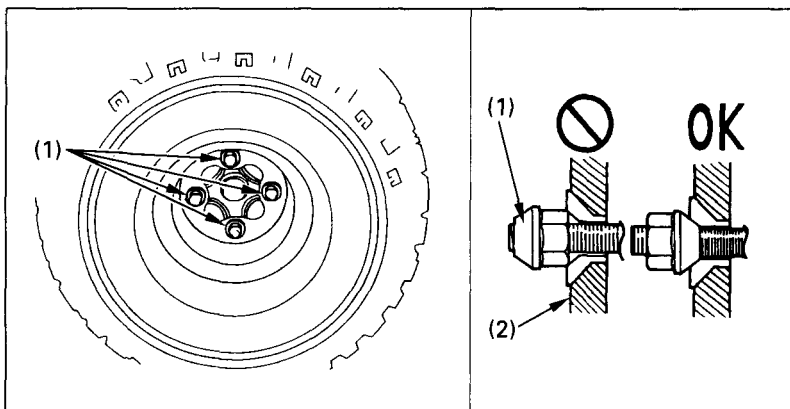

Fig. 4-29 (1) Wheel nuts
2. Loosen the wheel nuts (Fig. 4-29) with a 17 mm socket wrench.